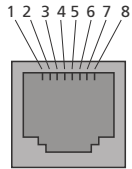

Fig.1: RJ-45 connector
- Fig.1 shows the pinout of the RJ-45 connector of the converter.